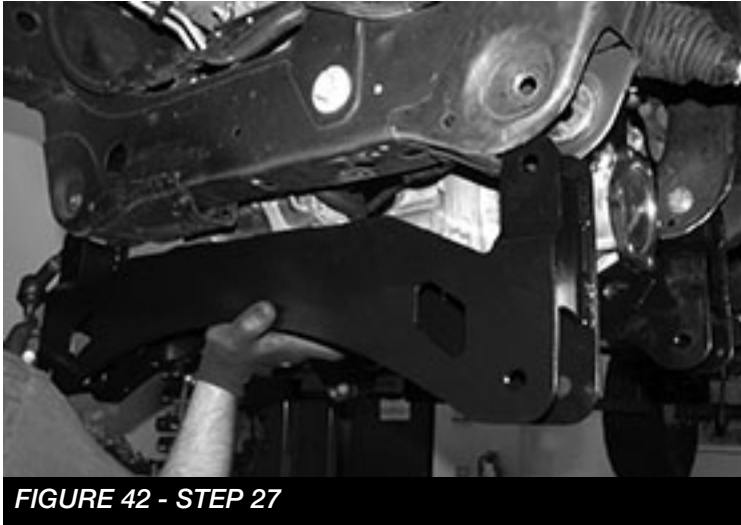

FIGURE 42 - STEP 27
27. Reinstall the steering rack and plug all harnesses back in. Locate and install FT20637BK (front crossmember) into the factory lower control arm pockets using the stock hardware. Leave loose at this time. **SEE FIGURE 42**